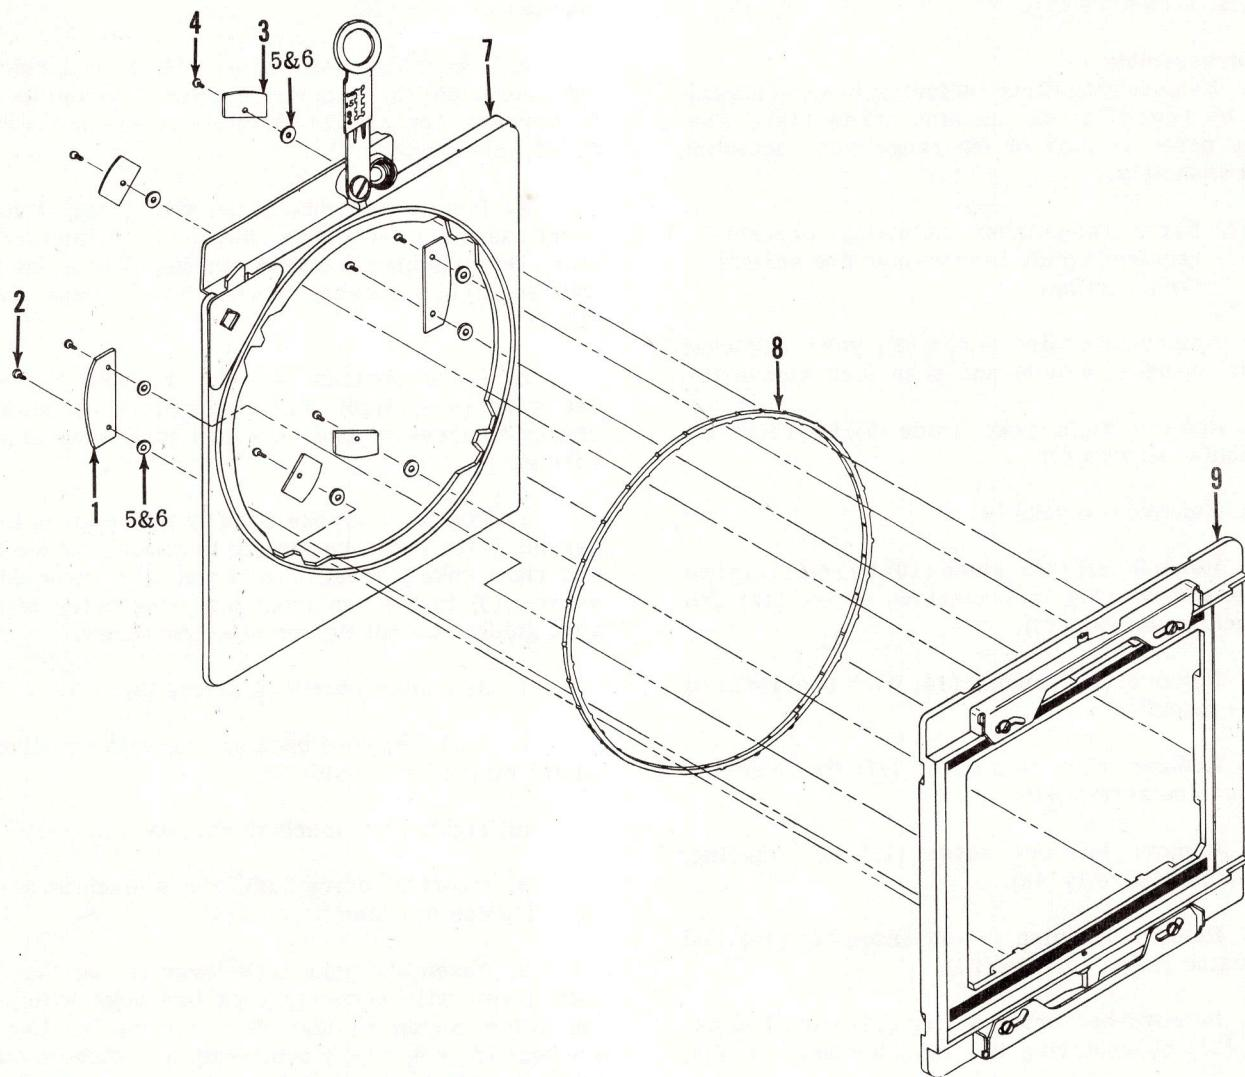
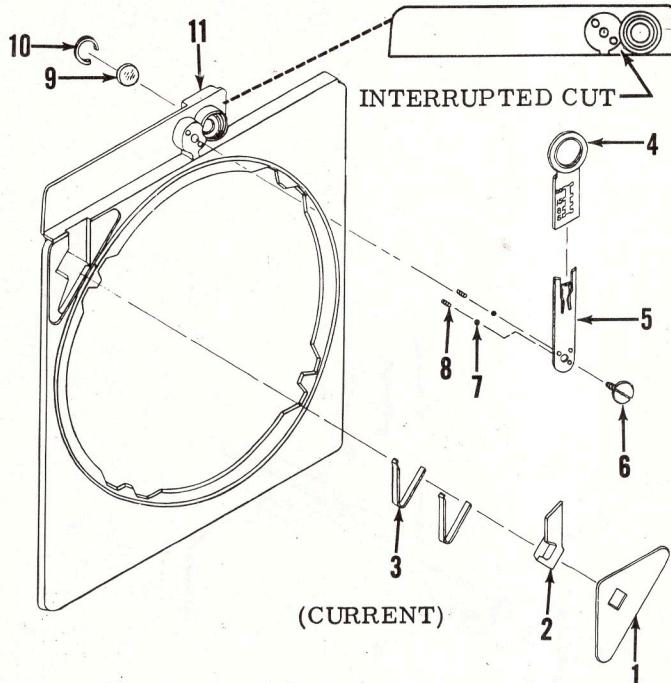
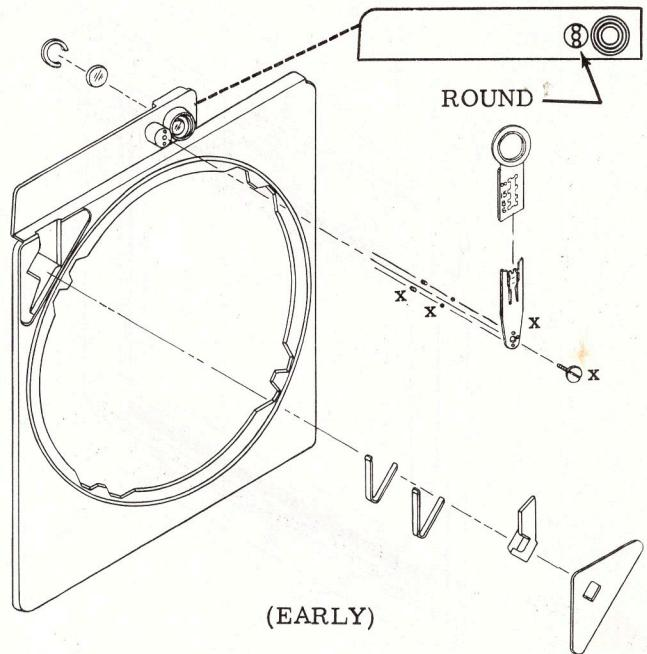

Figure 12. BACK ASSEMBLY
Figure 12A. STATIONARY FRAME COMPLETE
Figure 12B. STATIONARY FRAME COMPLETE
X.. BACK ASSEMBLY - DISASSEMBLY AND REASSEMBLY (Figure 12)
a. Remove four machine screws (2), four machine screws (4), two retainers (1), four retainers (3), washers (5 & 6, used as required), and stationary frame complete (7). If disassembly of the stationary frame complete is necessary, see Par. X. 1.
b. Remove revolving ring (8) from grooved track of the revolving frame complete (9). If disassembly of the revolving frame complete is necessary, see Par. X. 2.
NOTE: A change has been made on the stationary frame as illustrated in figures 12, 12A & 12B. Disassembly and reassembly procedures remain the same. Items marked x in figure 12B are not interchangeable with corresponding items in figure 12A. When ordering replacement parts, refer to the correct parts list.
X. 1. STATIONARY FRAME COMPLETE - DISASSEMBLY AND REASSEMBLY (Figure 12A)
- Remove cemented release button cover (1). Remove release button (2) and two button springs (3) from cavity in stationary frame.
- Remove peepsight assembly (4).
- Remove peepsight carrier (5) by removing machine screw (6), two steel balls (7) and two carrier springs (8).
- Remove rear window (9) from stationary frame assembly (11) by removing retaining ring (10).
- Assemble rear window (9) and retaining ring (10) in stationary frame assembly (11).
b. Insert two carrier springs (8) into two small holes in boss of stationary frame for carrier peepsight mounting. Apply a light coat of Dow-Corning #44 Silicone grease to two steel balls (7) and place a ball over each carrier spring. Apply paraffin to two sides of peepsight carrier (5) and apply Neolube to underside of head of machine screw (6). Position peepsight carrier in place and secure with machine screw.
c. Assemble peepsight assembly (4) to peepsight carrier.
d. Assemble two button springs (3) in cavity of stationary frame. Apply a light coat of Dow-Corning #44 Silicone grease to release button (2) and position in place. Apply 3M 776 adhesive to area around cavity opening in stationary frame, keeping within .050 in. from edges of cavity. Assemble release button cover (1) and remove excess adhesive.